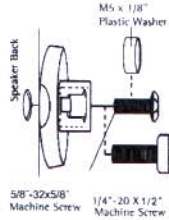

Figure 3
4. Check the size of the hole and make sure the 5/8" x 32x5/8" machine screw, the 1/4" x 20 x 1/2" machine screw, the M6 x 20mm, or the M5 x 20mm fits inside (Figure 3).